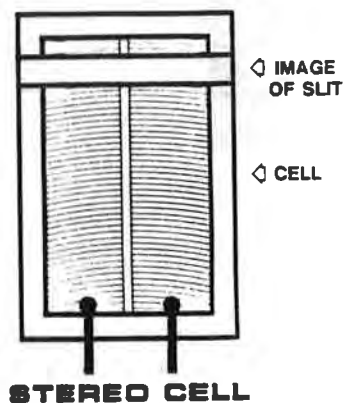

figure 2
(A) Mount the stereo solar cell on the projector and position the bracket so that the slit image hits the upper part of the cell. The cell should be approximately .040 inch behind the film such that the slit image just fills the cell width but DOES NOT SPILL OVER (figures 2 and 3).